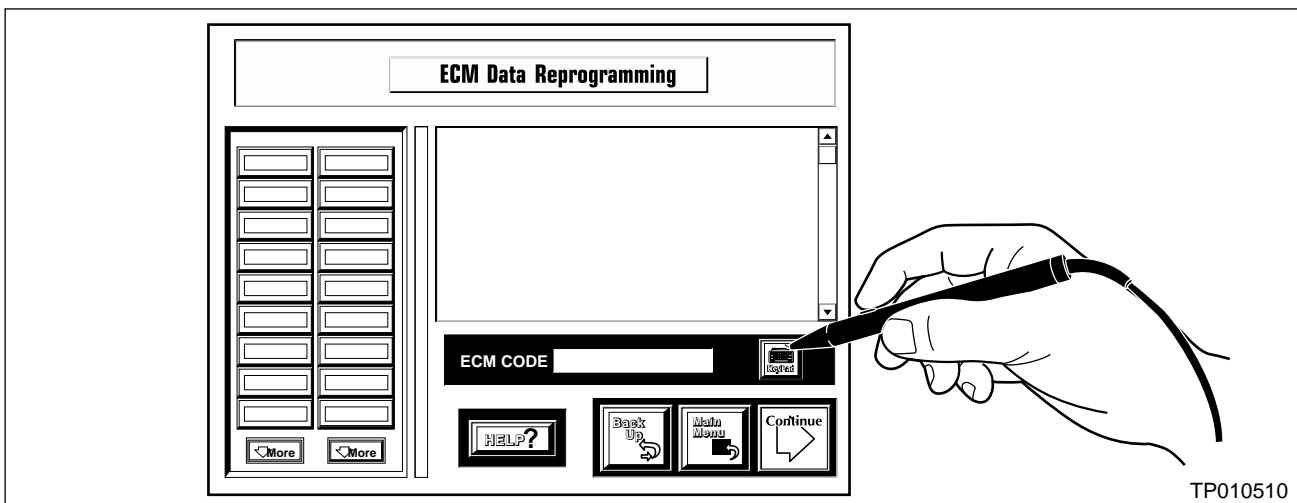

Figure 4
- An ECM ID CODE must be entered (see Figure 4) to get the Reprogramming data from ASIST. This is different from the typical ECM Reprogramming procedures now in use, which requires the model and model year to be entered to look up ECM data in ASIST.
- A. Click on the **KeyPad** button (see Figure 4).